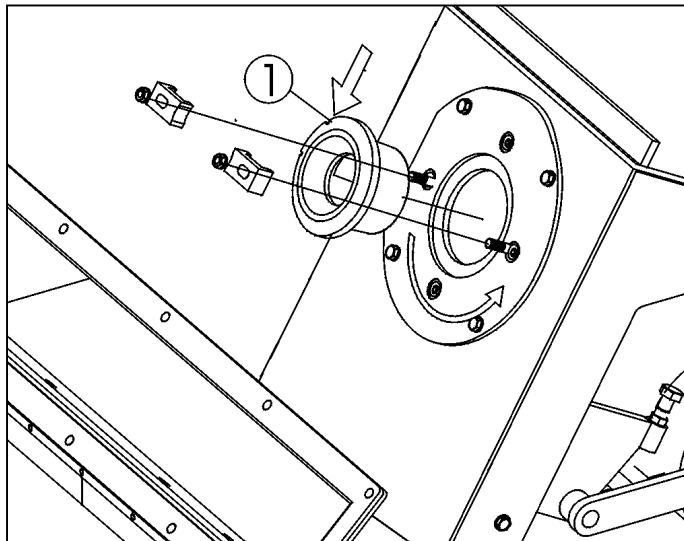

Fig. 7.2
- Set the upper window edge (1) of the control cage to imaginary 11.30 of a dial (see fig. 7.2).